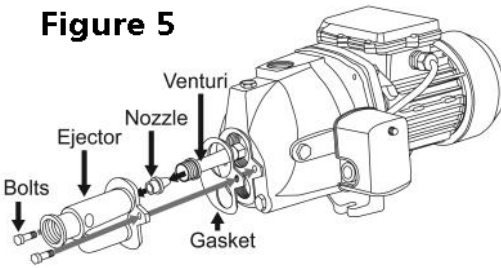

**Figure 4**
4. Install a priming tee with a plug on the suction pipe from the water source as shown in Figure 4. An inline check valve should also be installed on the suction line going to the pump. Install a union or other fitting that will allow the pump to be easily disassembled from the piping for easy servicing. Make sure Teflon tape or pipe joint compound is used on all joints.